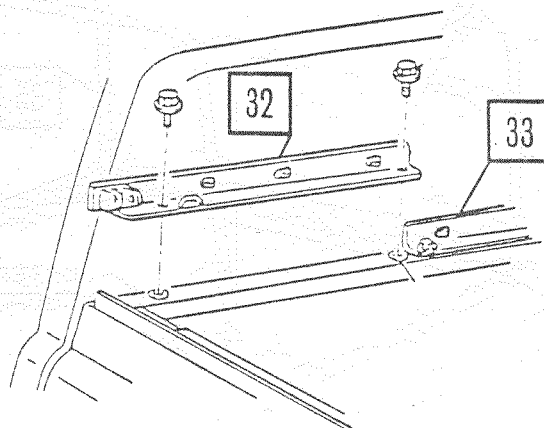

Figure 9.
36. Remove cargo cover rail assembly from pickup box and replace with new cargo cover rail assembly supplied (Figure 9.). Tighten bolts to 22-27 lb.-ft. (2.5-3.0 Nm).